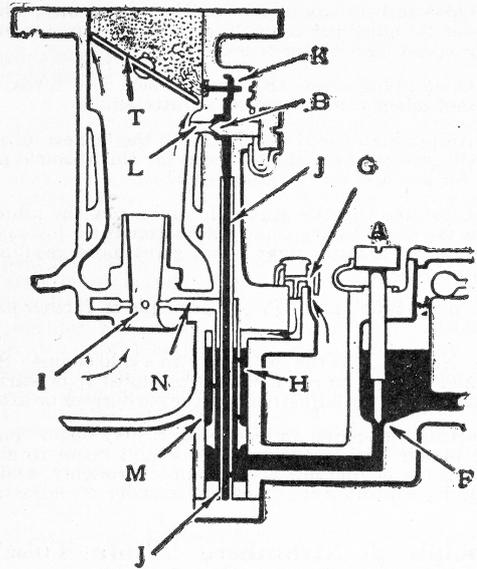

Fig. 28. Idling position. When idling, all the gasoline is drawn up the tube (J), through the idling jet (K) and sprayed above the throttle valve (T).
Fig. 29. Low and medium speed: At intermediate speeds the gasoline is drawn past the low-speed adjusting screw (B) from the tube (J). As the throttle is opened, more mixture is drawn through the small venturi tube (I) and augments that drawn from the opening (L) (Fig. 28).
the gasoline flows to the accelerating well (M) through the needle valve (F) (Fig. 28) which is adjustable.